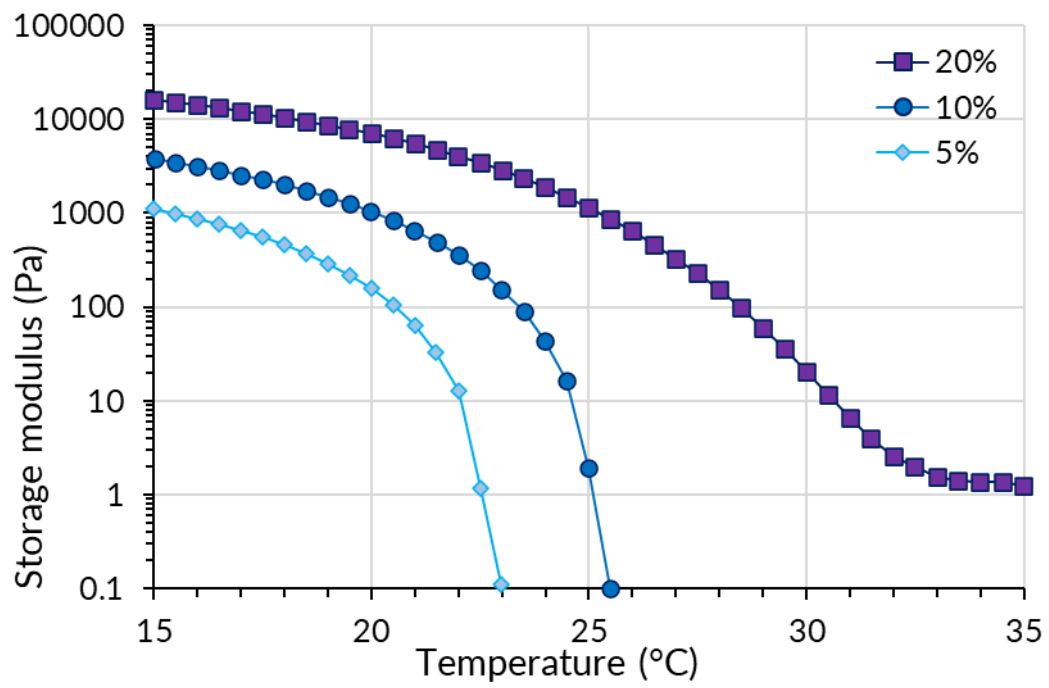

Figure 1. Decrease of storage modulus for GelMA hydrogels at various concentrations over an increasing temperature.
- See Figure 1 for difference in temperature behavior of GelMA solutions at different concentrations.